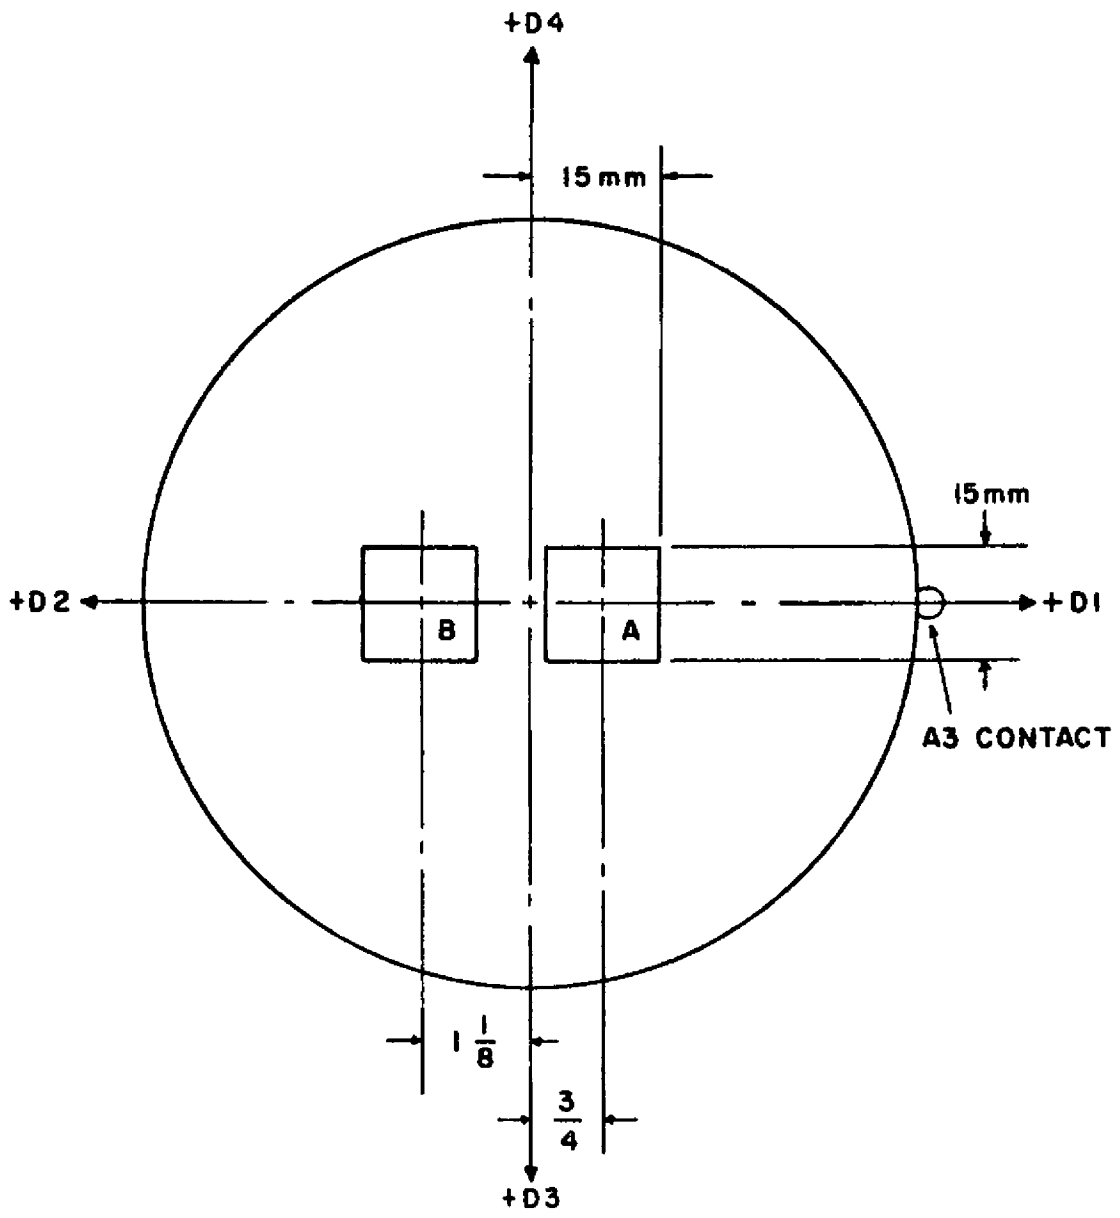

FIG. 1
- + The undeflected spot positions shall be within 15 mm squares whose centers are located as shown in Figure 1.